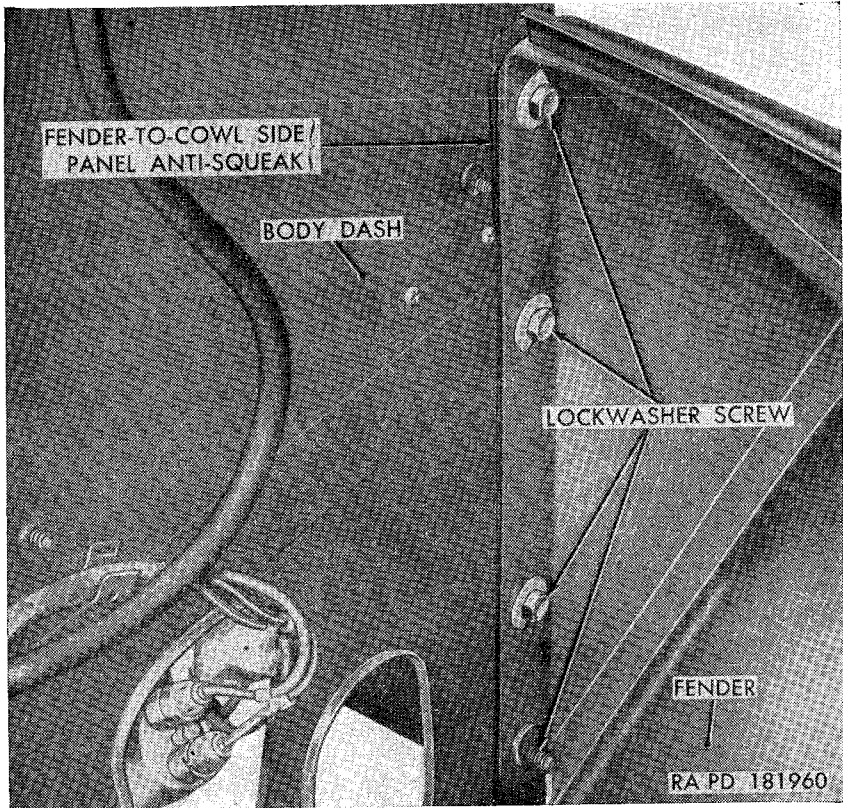

Figure 178. Rear of left front fender secured to body dash.
- (1) Raise hood and lock in raised position (par. 255a).
- (2) Remove blackout driving light assembly (par. 164b).
- (3) Remove horn assembly (par. 184d).
- (4) Free the electrical cables from the four fender clips. Free the fuel line from the fender clip.
- (5) Remove the four lockwasher screws (fig. 178) securing the rear of the left front fender to the front of the body cowl.
- (5) Secure the rear of the fender to the body cowl, from the engine side, with three $\frac{5}{16} \times \frac{7}{8}$ lockwasher screws (fig. 178). Working beneath the body, install the bottom $\frac{5}{16} \times \frac{7}{8}$ lockwasher screw through the body cowl into the fender.